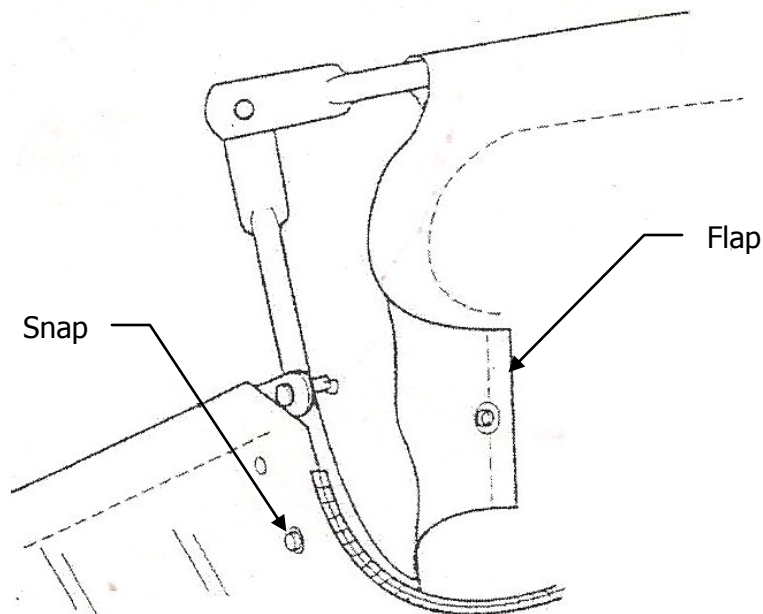

Figure 15
15. Secure the bag corners around the Lower Hopper Side Tubes by snapping the Bag Flaps to the Bag Bottom on both sides. See Figure 15.